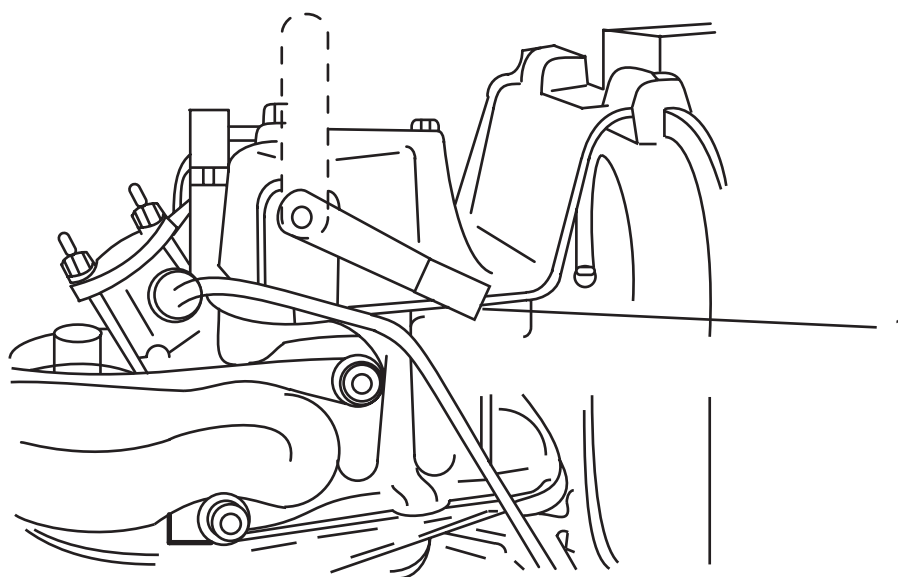

Figure 4. P-100 Portable Dewatering Pump Compression Release Lever
5. Press down on the compression release lever (figure 4, item 1), ensuring that it remains pressed downward.
7. Press down on the compression release lever (figure 4, item 1), ensuring that it remains pressed downward.
4. At 120V distribution panel No. 1, set the GAYLORD CONT CABINET. circuit breaker (figure 4, item 1) to ON.